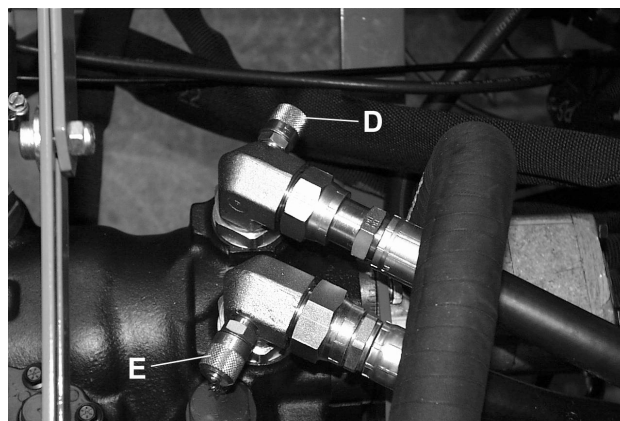

Fig.29
- D Fig.29 - Forward traction pressure 210 bar (3046 psi)
- E Fig.29 - Reverse traction pressure 210 bar (3046 psi)
- D fig. 29 - vejgrebssystem - Fremadgående 210 bar.
- E fig. 29 - vejgrebssystem - Bakning 210 bar.
- D Fig. 29 - transmission - Framat 207 bar.
- E Fig. 29 - transmission - Back 207 bar.